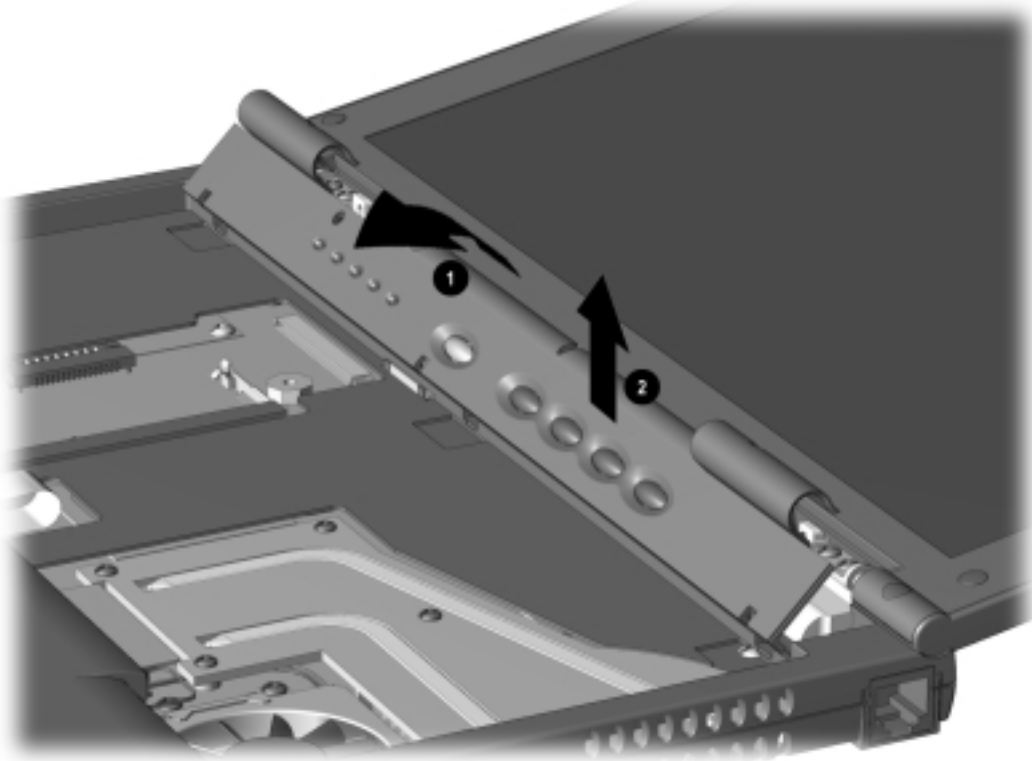

Figure 5-19. Removing the Switch Cover
7. Swing the back edge of the switch cover forward ❶ (Figure 5-19).
8. When the switch cover disengages from the base assembly, remove the cover ❷.